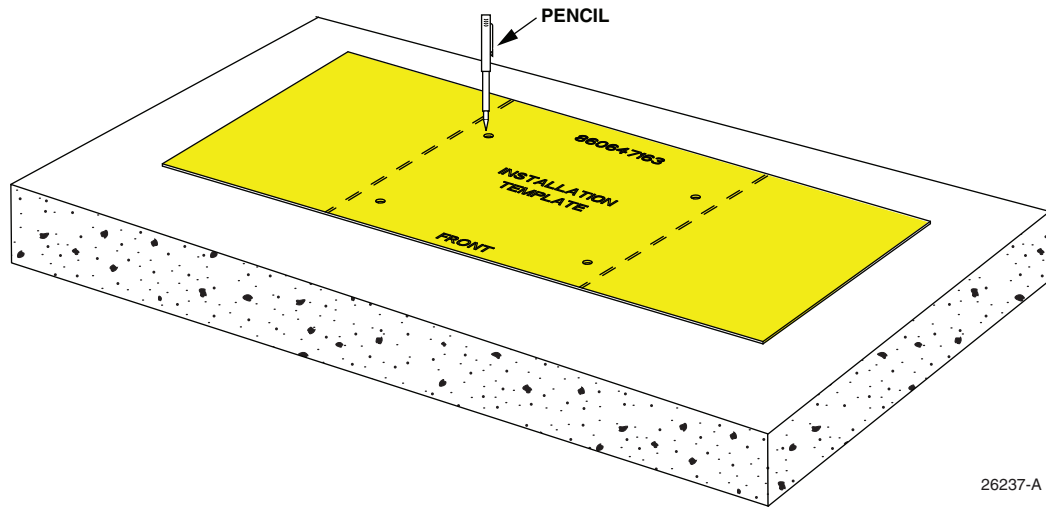

Figure 7. Marking Concrete
- Place the installation template on the concrete floor at the location just chosen, and use it to mark the concrete for the four mounting holes as shown in Figure 7.